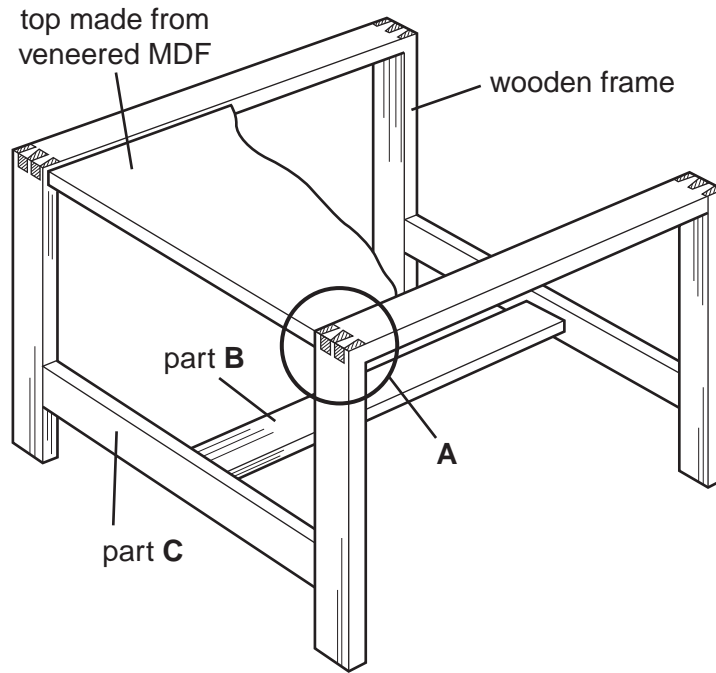

Fig. 2
- 2 Fig. 2 shows a table which is to be made in a school workshop.